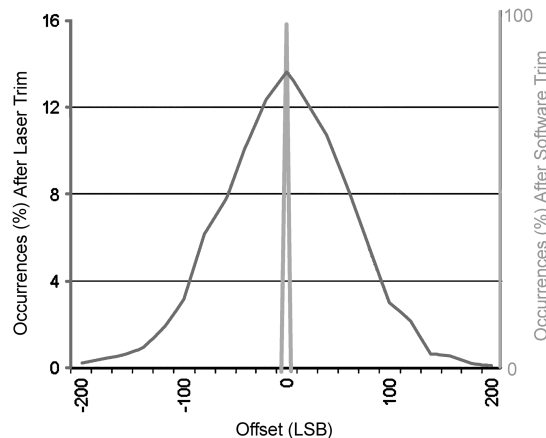

Figure 6-5. Offset Distribution Histogram including Soft-Trim Improvement
Figure 6-5 shows the LM96511 B-mode offset, measured through the ADC. As can be seen, Soft-trim allows extremely accurate offset adjustment (typically within 1LSB) and allows significant tightening of the distribution.
Figure 6-5 shows the LM96511 B-mode TGC in action. In this diagram, a 5MHz ultrasound signal enters the LNA with 350mV_{PP} single ended Near Field (NF) amplitude and the signal path headroom runs into clipping. 3.5V_{PP} differential NF amplitude appears at the LNA output (Differential gain = 20dB) where the DVGA TGC will equalize the signal so that the ADC FS range of 3.12V_{PP} (with IOR On or 4.4V_{PP} with IOR off) can be transversed to maximize the data acquisition resolution. Note that the LM96511's B-mode ADC operates off a 1.2V supply and yet can accommodate 3.12V_{PP}_FS with IOR on or 4.4V_{PP}_FS with IOR off. This is because of the coupling resistor ladder built into the ADC in spite of ADC input noise level performance which does not impact ENOB.